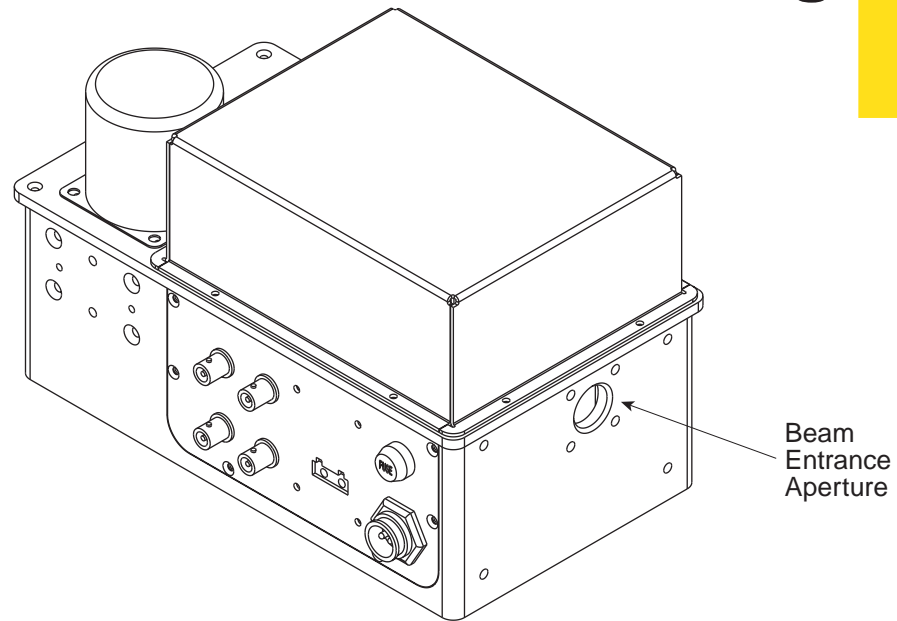

Figure 1-5 Beam Entrance Aperture Location
- 7 Insert the beam alignment tool into the beam *Entrance Aperture* of the Marking Head. Refer to Figure 1-5 for the *Entrance Aperture* location. Make certain the tool is seated flush against the Marking Head housing and is not cocked sideways in the bore.